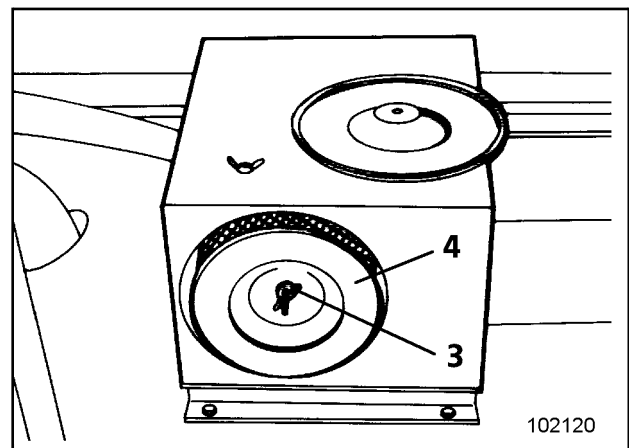

Fig. 3
- Unscrew nut (3, Fig. 3) and withdraw main filter element (4). Do not loose the washer under nut (3).